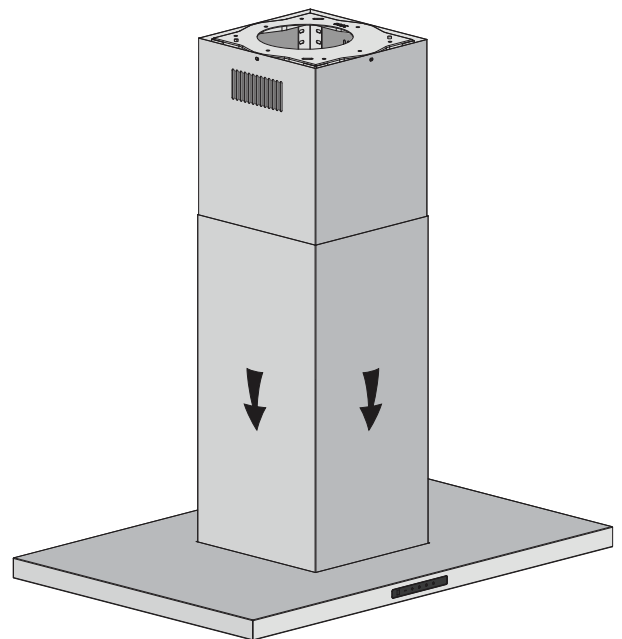

Figure 9
- After finishing all the above installation steps, remove the 'S' hook and put down the lower chimney (see Figure 9).